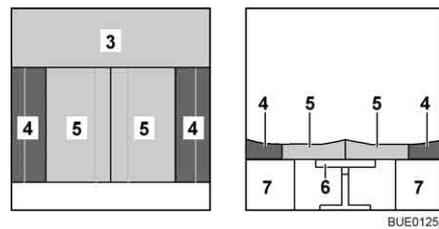

Fig. 96 After conversion
- Place the back cushions (Fig. 96,4) against the exterior wall. Observe the wedged form.
- Push the two seat cushions (Fig. 96,5) between the back cushions. Observe the wedged form.